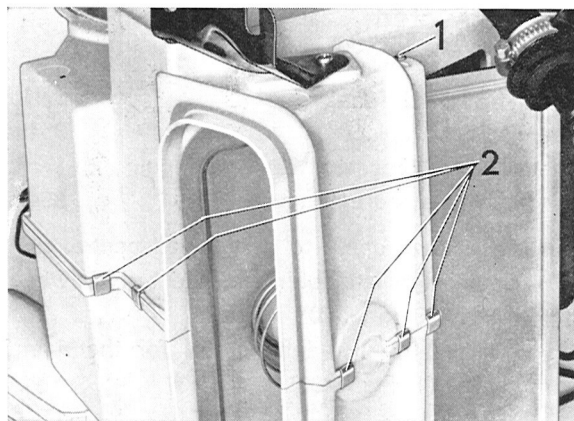

Fig. 8-84. Removing vacuum motor for air intake cover
2. Remove the locks for the shutter shaft (1, Fig. 8-84).